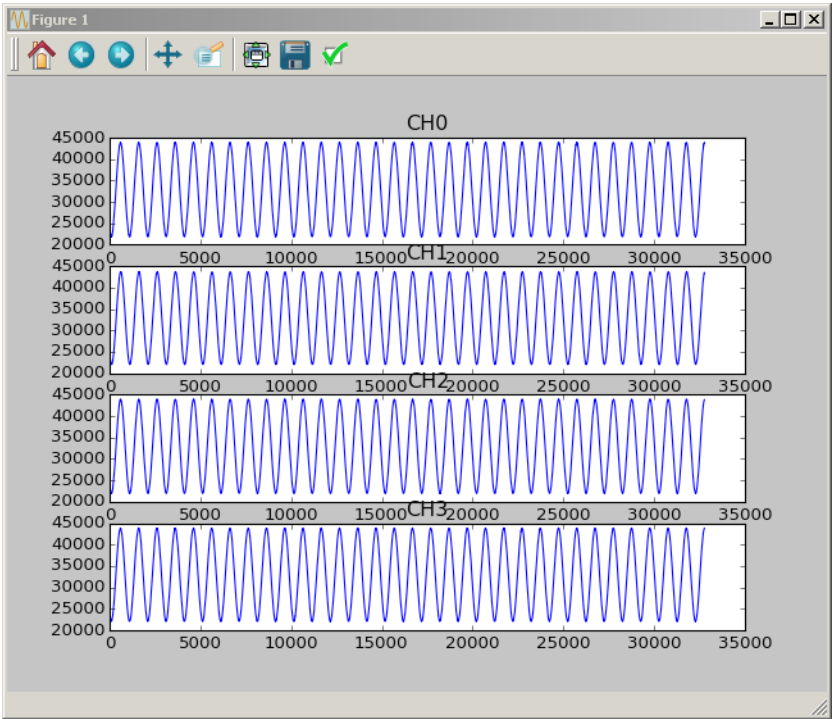

Figure 3. Example Time Domain Plot
- 9) Run the appropriate test script (Ltc2123Dc2226DualClockingSolution.m for Matlab, ltc2123_dc2226_dual_clocking_solution.py for Python). Plots similar to Figures 3 and 4 should appear. At this point, data is stored in program variables for further manipulation and testing.